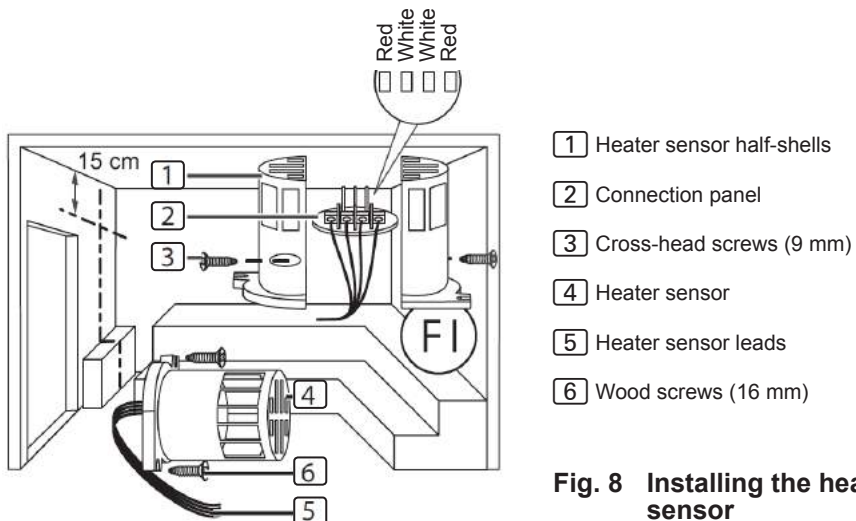

Fig. 8 Installing the heater sensor
To install the heater sensor, perform the following steps (see **Fig. 8**):
3. Connect the four connections for the heater sensor lead [5] in accordance with **Fig. 8**.
4. Place the connection panel [2] crossways (as shown in **Fig. 8**) in the heater sensor half-shells.